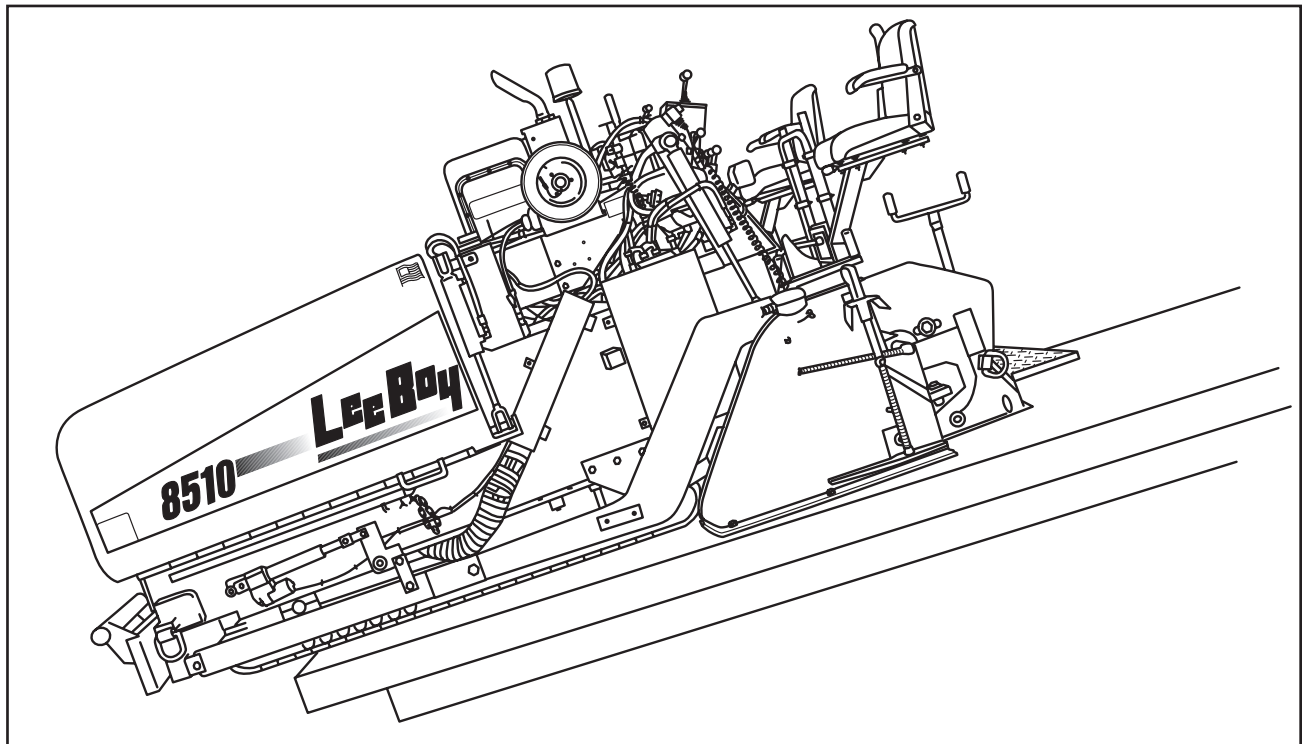

FIGURE 3-23. UNLOADING
6. Move Paver forward down the ramp as shown in Figure 3-23.